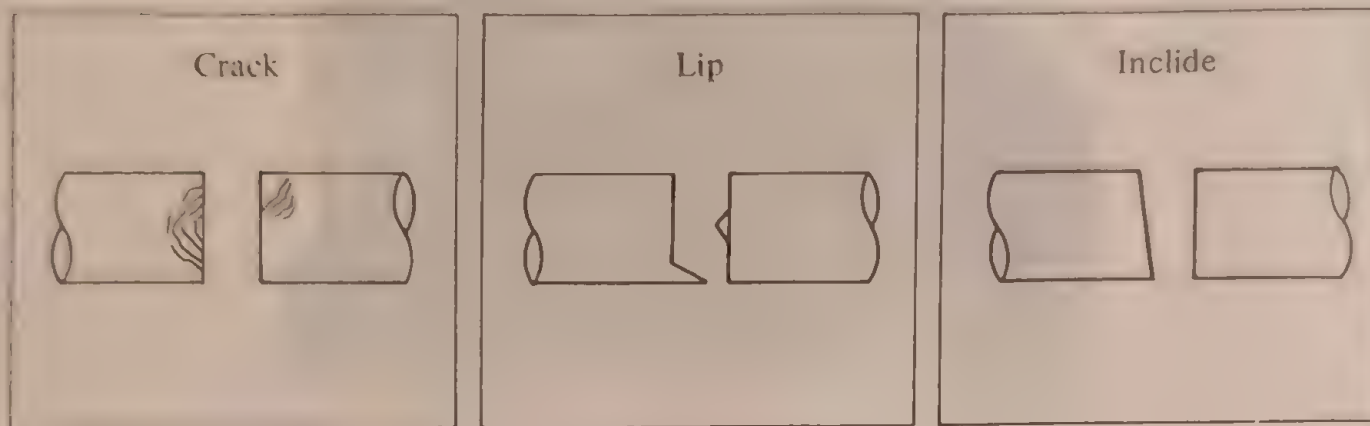

Fig. 19 End View of Optical Fiber
3.4.3 Observation on end faces condition in the X (Y) cross section
Check condition of the end faces on the monitor ③. If the fibers have substantial dust on their surfaces, or resemble the end faces as shown in Fig. 19, then, clean the fiber using the ultra-sonic cleaner or cleave the fiber again and repeat the entire procedure.